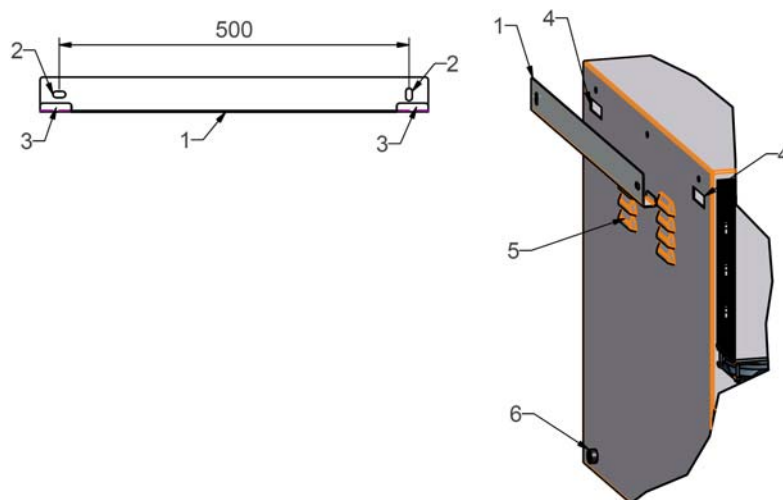

Figure 3: Enclosure rear view
The InCa Bio 04 is wall mounted and the bracket (1) has 2 elongated holes for mounting and horizontal alignment and 2 tabs (3-4) to mount the instrument as shown in figure 3.